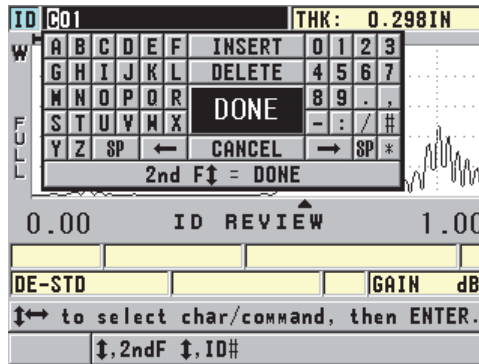

Figure 6-37 Editing the ID # edit mode
4. Press **[2nd F]**, **[FILE]** (**ID#**) again, and then edit the ID value (see Figure 6-37 on page 128).